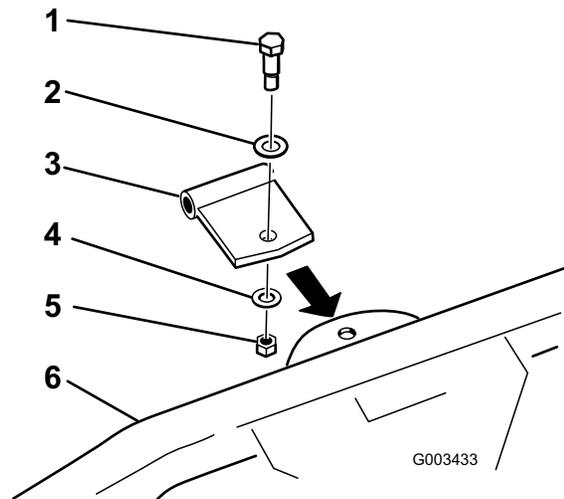

Figure 10
2. Secure the straight pivot bracket to the spring rake with the shoulder bolt, washer (.531 x 1.063), washer (.469 x .922), and locknut (7/16 inch) as shown in Figure 10.